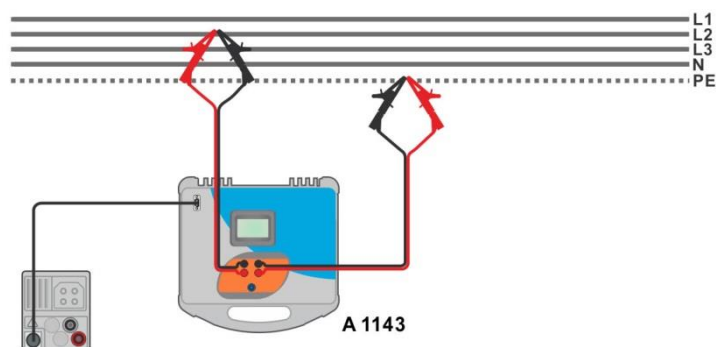
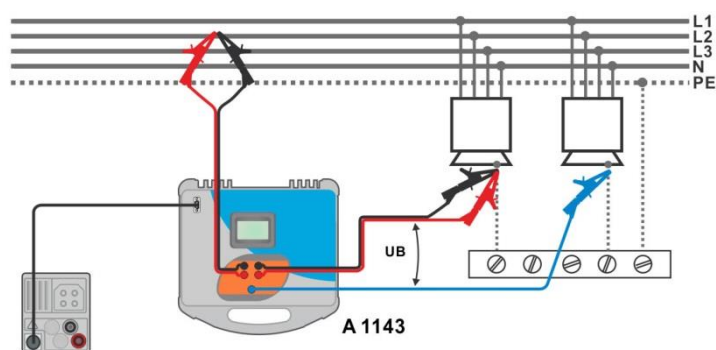

Figure 7.39: High precision Loop impedance measurement – Connection of A 1143
Figure 7.40: Contact voltage measurement – Connection of A 1143
- Connect test leads to the object under test, see **Figure 7.39** and **Figure 7.40**.